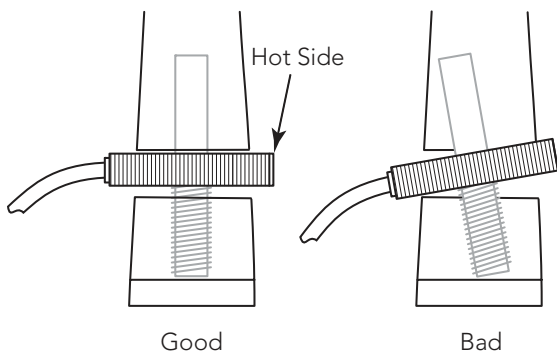

Figure 1
- Before you install the Full Circle, confirm that the wheels you are about to replace are lined up well in the legs. The wheels must be parallel and the posts perpendicular to the cuts in the legs or the Full Circle may become mechanically unstable on the instrument (figure 1).
The pickup is “hot” on the flat face of the wheel: on the side with the non-threaded post. For good performance it is crucial that the hot side of the pickup lies absolutely flat with no gaps or voids where it contacts the bridge. If necessary, sand the wood flat where it contacts the wheel before you install bridge on the bass (figure 1).
Once you have cut off the feet, fit the wheels with the bridge off of the bass. The hot side of the pickup should lay absolutely flat against the bridge, with no gaps or voids. If necessary, sand the wood flat at the contact point and/or increase the depth/diameter of hole before installing the bridge on the bass (figure 1).